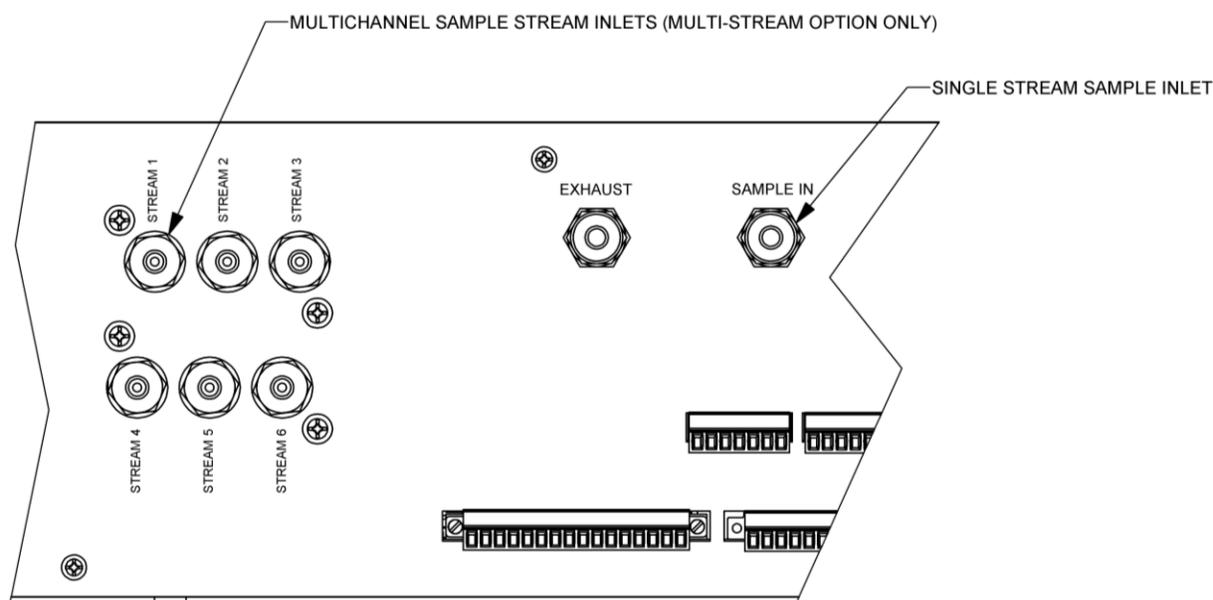
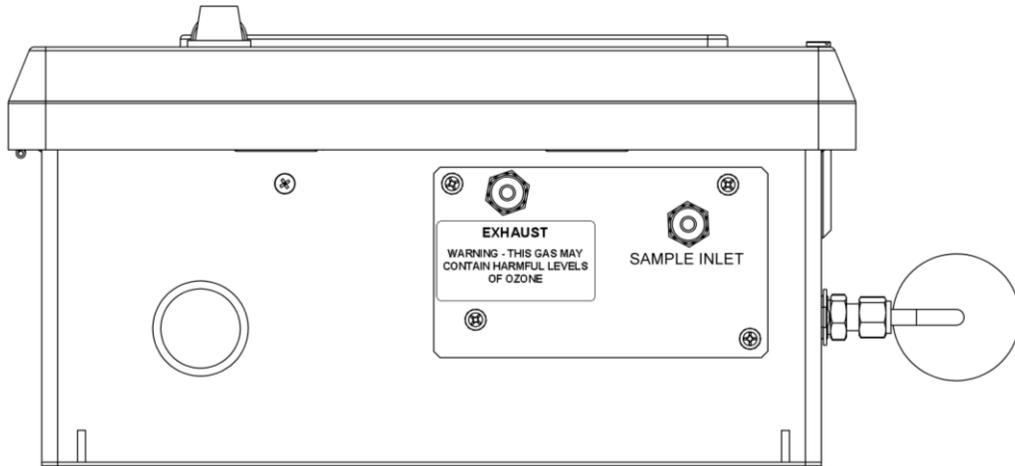
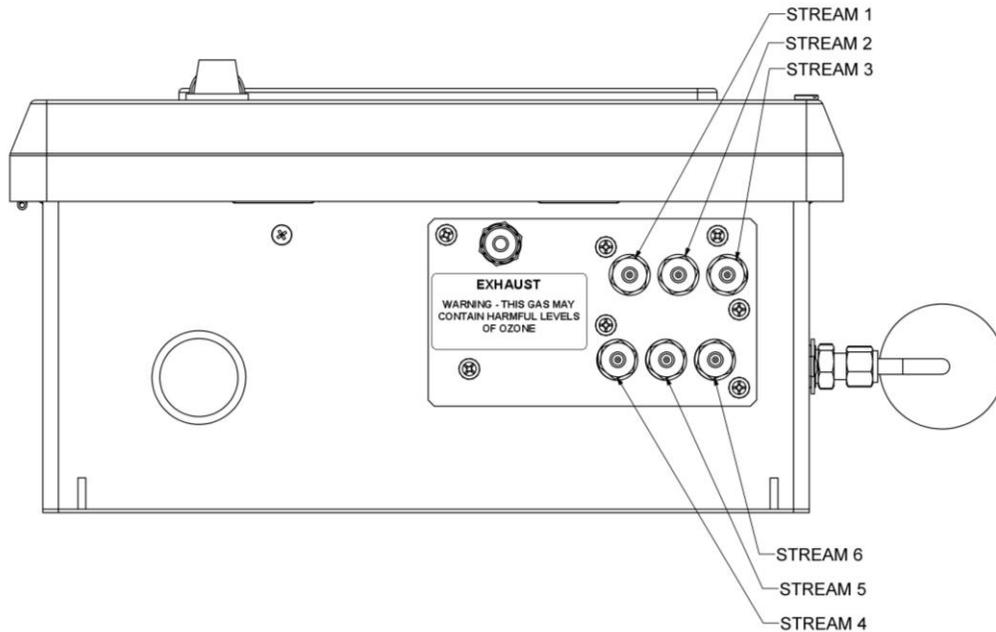

Figure 4-2: Pneumatic Connections, Rack Mount Configuration
Figure 4-3: Pneumatic Connections, NEMA Configuration, Single Stream
Figure 4-4: Pneumatic Connections, NEMA Configuration, Multi-Stream
3. Connect sample inlet line(s) to the sample port on rear panel or bottom panel of instrument. See Figure 4-2 or Figure 4-3 for rear panel pneumatic connections.
Connect the exhaust fitting on the rear panel (see Figure 4-2) to a suitable vent outside the monitor area.
Sample gas connections are made to the ¼” tube fittings on the rear panel. For single stream monitors, use the fitting labeled “Sample Inlet.” For multi-stream monitors, the sample tubing is connected to the fittings labeled Stream 1, Stream 2, etc (See Figure 4-2, Figure 4-3, Figure 4-4)